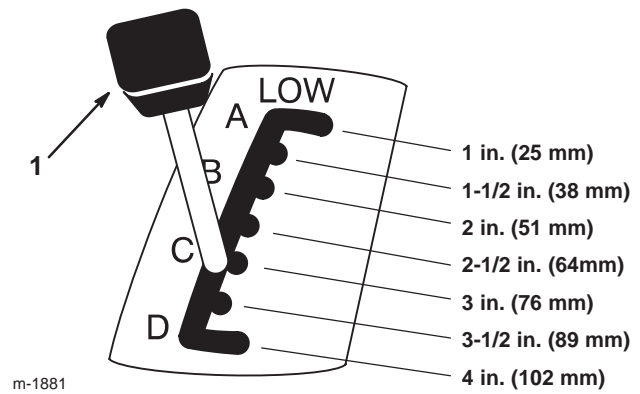

Figure 6
1. Pull on the height-of-cut lever and shift it into the desired position (Fig. 6).